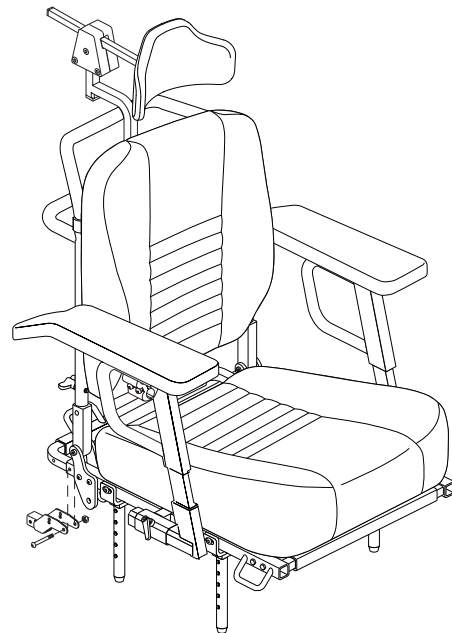

Figure 12a. Mount the Accessory Bracket
2. Mount the accessory bracket from the underside of the seat frame and slide the mounting plates of the bracket over the pivot bracket. See figure 12a.
3. Reinstall the button head screw and Nylock jam nut to secure the accessory bracket to the pivot bracket and the seat. See figure 12a.